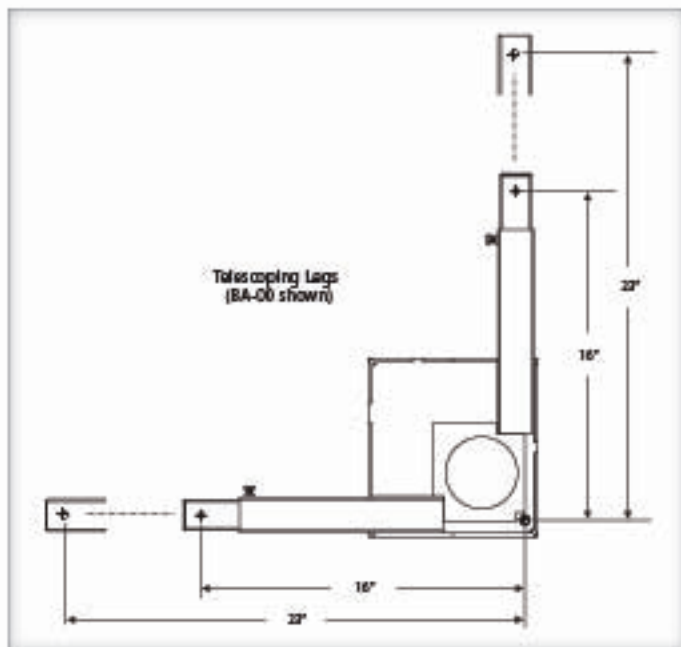

Figure 18-1
- If all clear, drill 3/8" holes in pilot locations. [Figure 18-1]